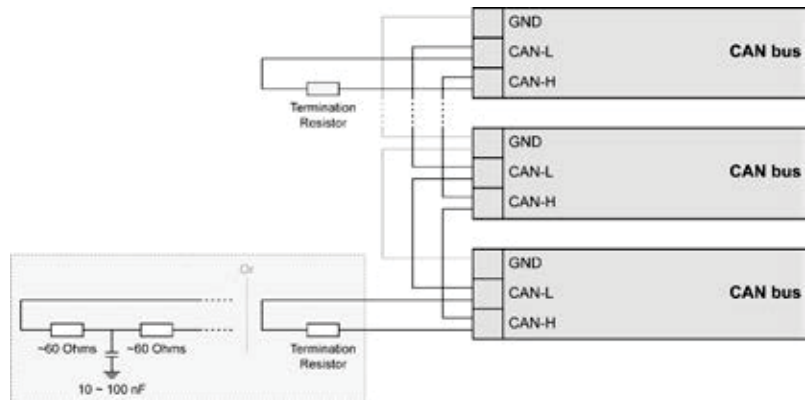

Fig. 64: CAN bus - termination
The termination resistor is connected between CAN-H and CAN-L (Fig. 64).
- Divide the termination resistance into 2x60 Ohms with a center tap connected to ground via a capacitor of 10 to 100 nF (Fig. 64).